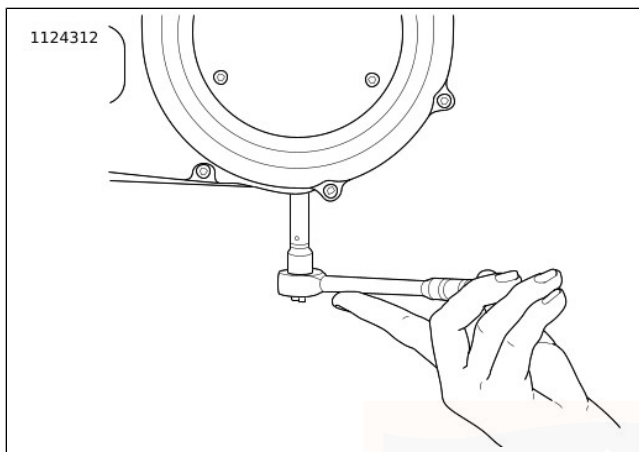

Figure 58. Removal/Installation of Chaincase Drain Plug
3. See Figure 58. Drain primary chaincase.